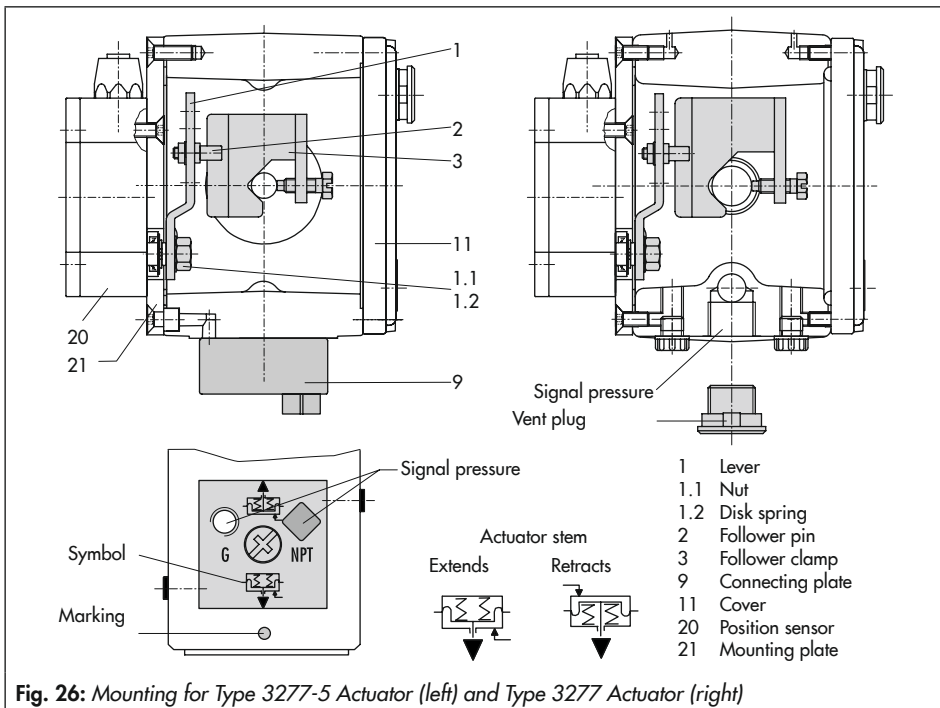

Fig. 26: Mounting for Type 3277-5 Actuator (left) and Type 3277 Actuator (right)
The signal pressure from the positioner is routed over the signal pressure connection of the connecting plate (9, Fig. 26 left) to the actuator diaphragm chamber. To proceed, first screw the connecting plate (9) included in the accessories onto the actuator yoke.